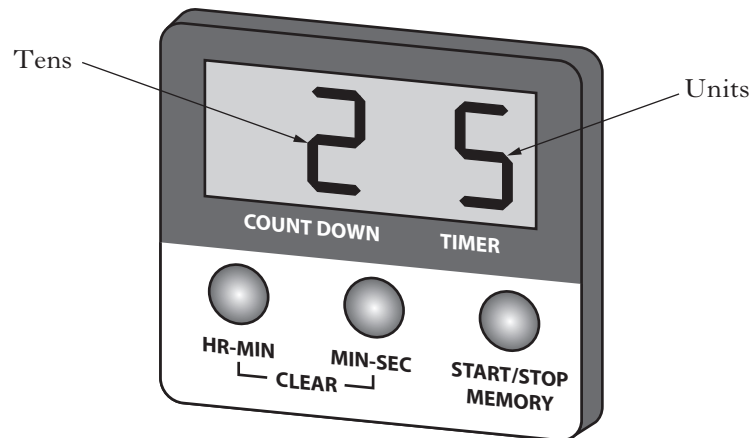

Figure Q4
4. A countdown timer is shown in Figure Q4. It provides a visual display running from 59 to 0 so that a number of tasks performed in less than a minute can be assessed.